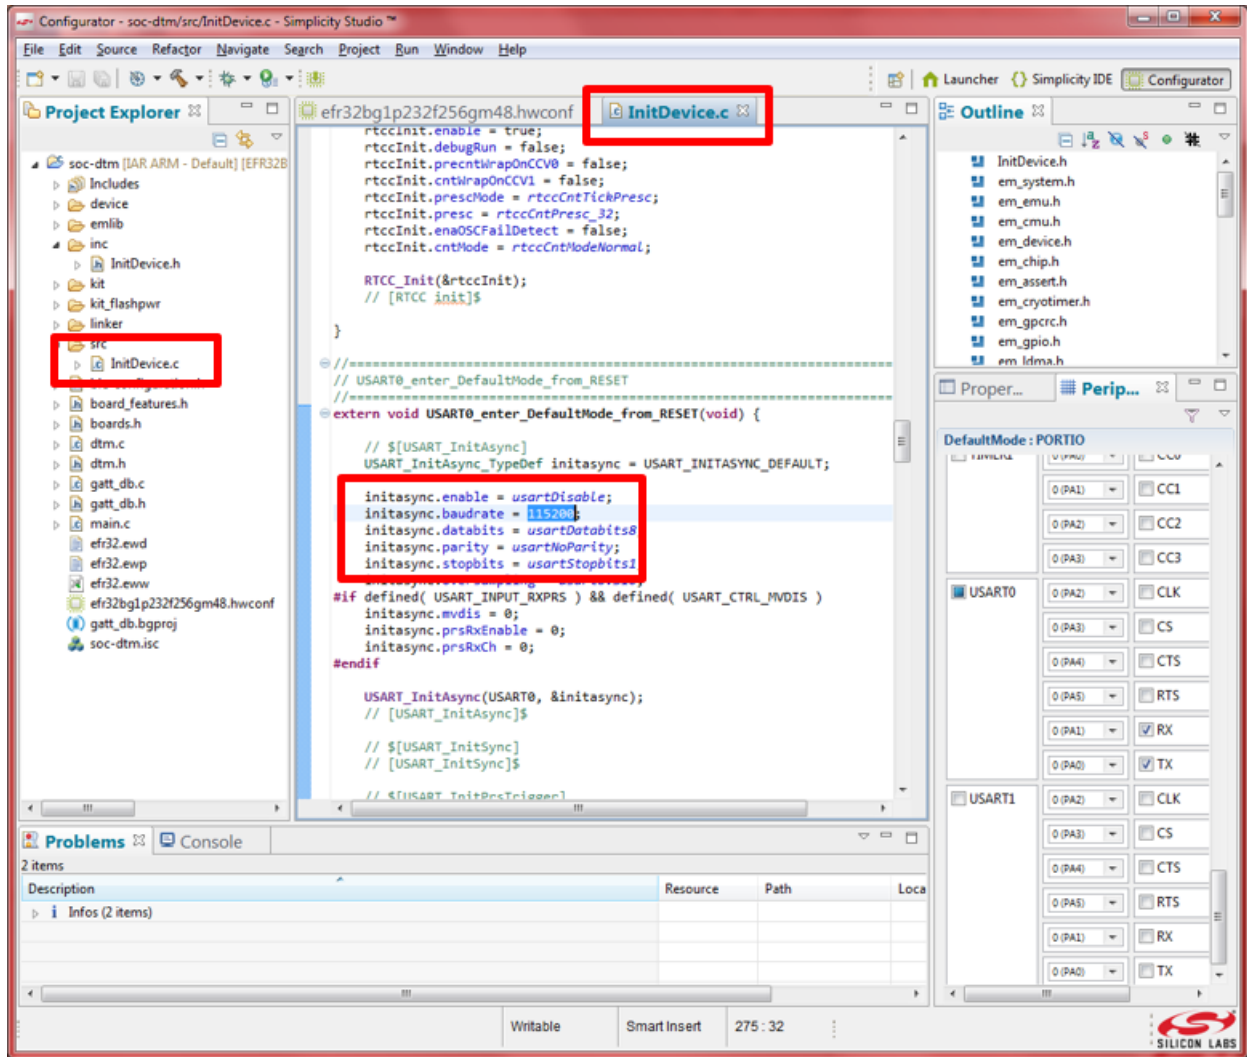

Figure 4.9. Editing the InitDevice.c in the Simplicity IDE
If you are working in earlier SDK versions (before 2.6.0.0), at this point the Hardware Configurator shown in the following figure can be used to re-configure the UART pin mapping, while parameters such as the baud rate, for example, can be re-configured by editing the `InitDevice.c` source file as shown in Figure 4.9 Editing the InitDevice.c in the Simplicity IDE on page 18, or through the Hardware Configurator's other view, shown in Figure 4.10 Hardware Configurator in Simplicity Studio v4 / UART Properties on page 19.
5. You are now in the IDE perspective, with a view similar to the one shown in Figure 4.9 Editing the InitDevice.c in the Simplicity IDE on page 18.